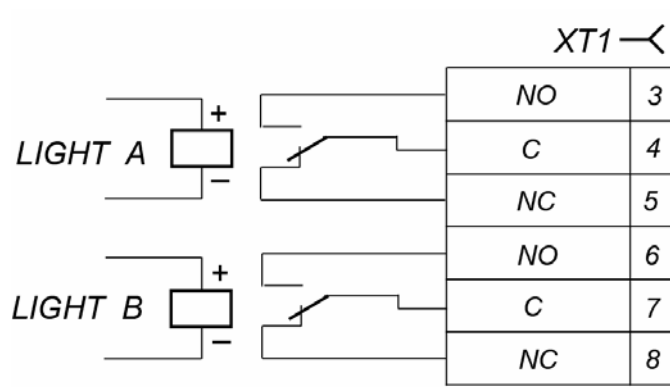
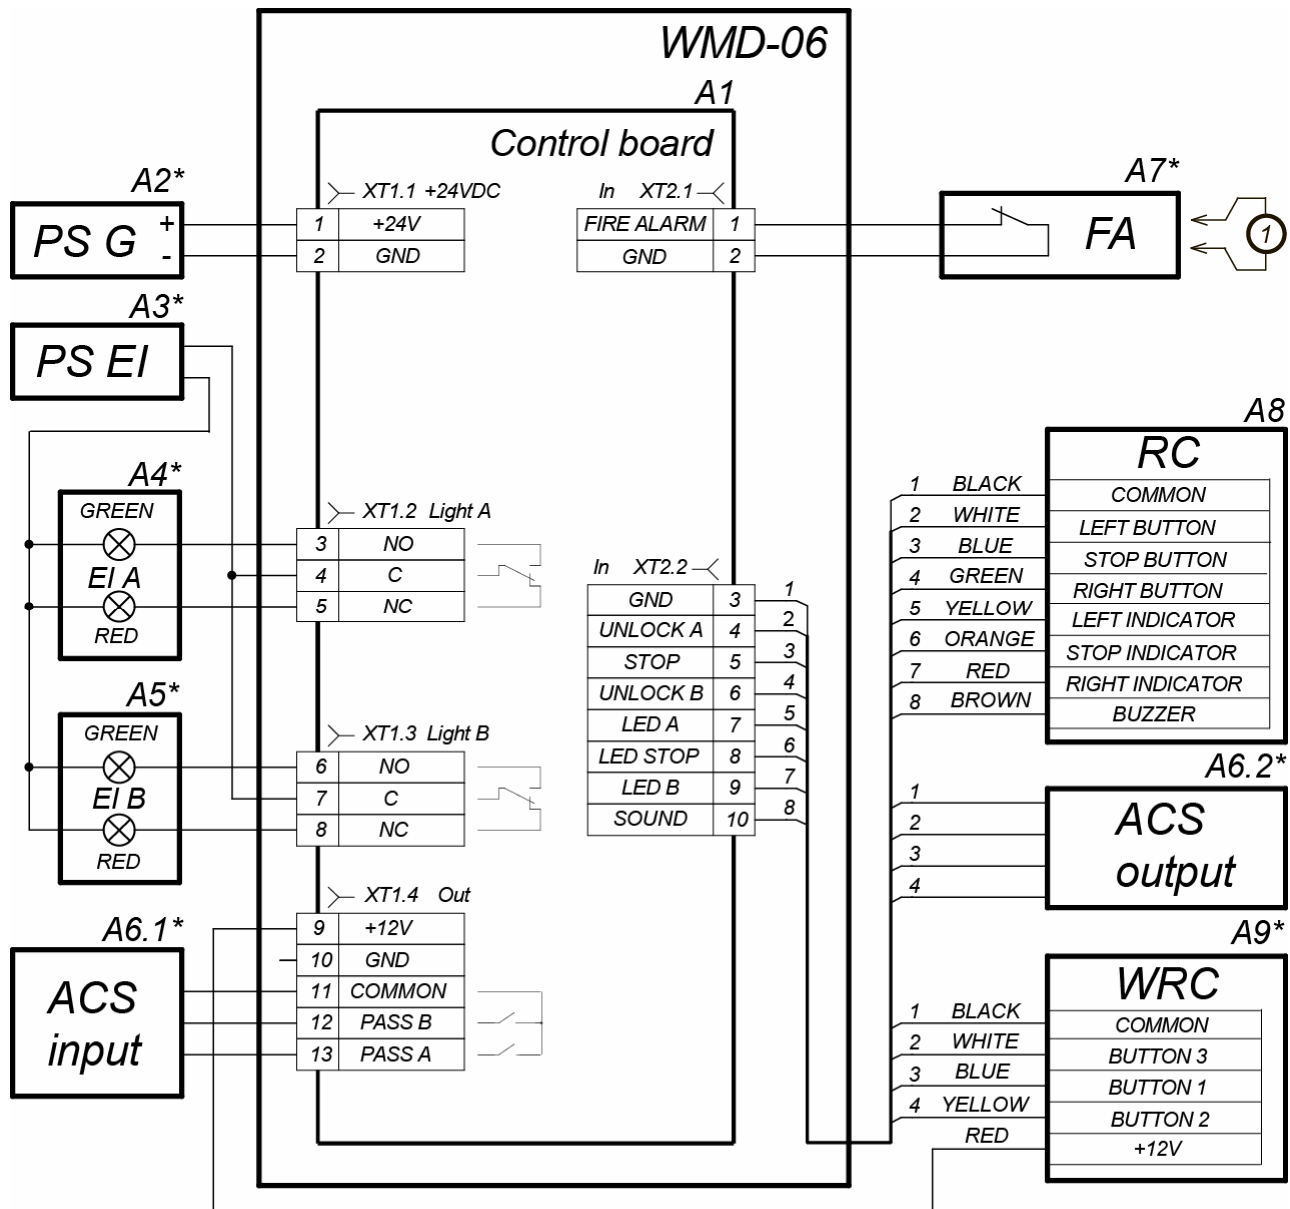

Figure 9. Output stages for Light A and Light B
Figure 11. Electrical connection layout
Light A and *Light B* outputs are used for external indication connection and are basically relay transfer contacts (see Fig. 9). Each output has full contact set on **XT1** connector block: normally open (NO), normally closed (NC) and common (C). Connection is performed in accordance with electrical connection layout given in Fig. 11.
Item numbers in the installation sequence are given according to Fig. 2, unless stated otherwise. Electrical connection layout is given in Fig. 11. Location of connector blocks and jumpers on the control board is given in Fig. 3. Cables used for installation and their maximum length are set in Section 8.3. Recommendations on surface preparation are given in Section 8.1. Follow this sequence during gate installation: